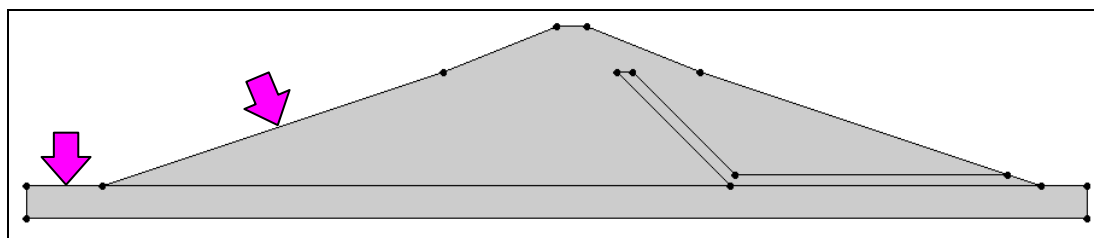

Figure 3. Assigning the head arcs.
2. Double-click on one of the arcs on the upstream (left) side of the dam, as shown in the Figure 3 below.